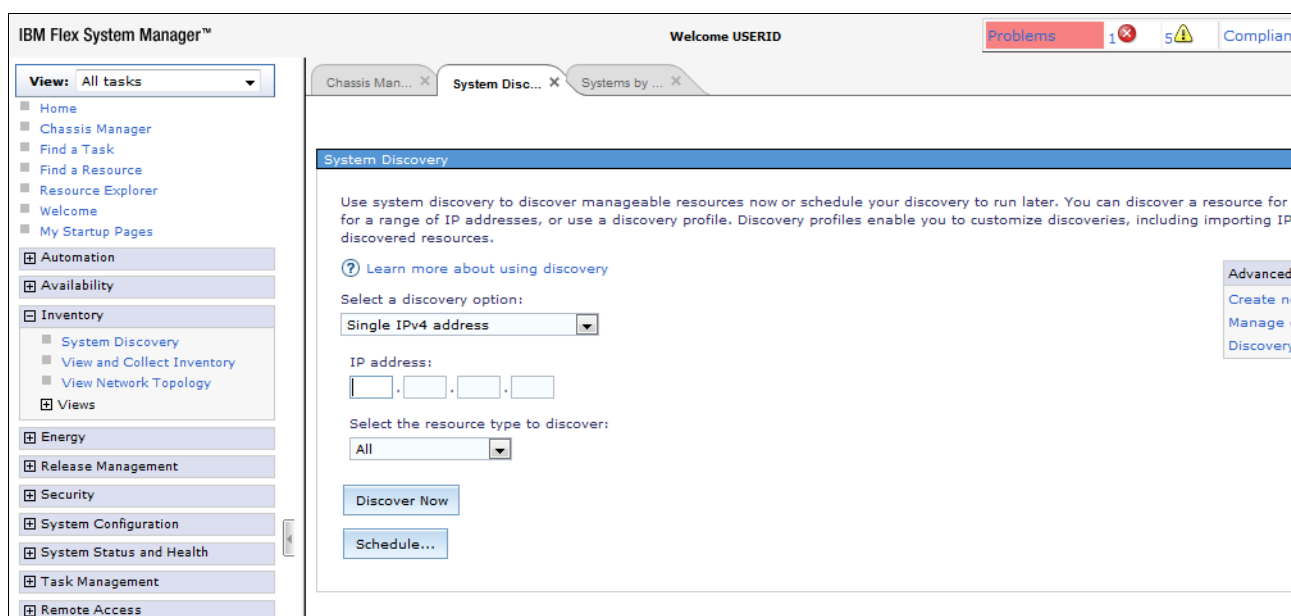

Figure 3-74 Flex System Manager: System Discovery
- From the left navigation pane, click **Inventory** → **System Discovery**. Enter the IP address of the server that you want to add to the management list, as shown in Figure 3-74. Add the target servers as needed.